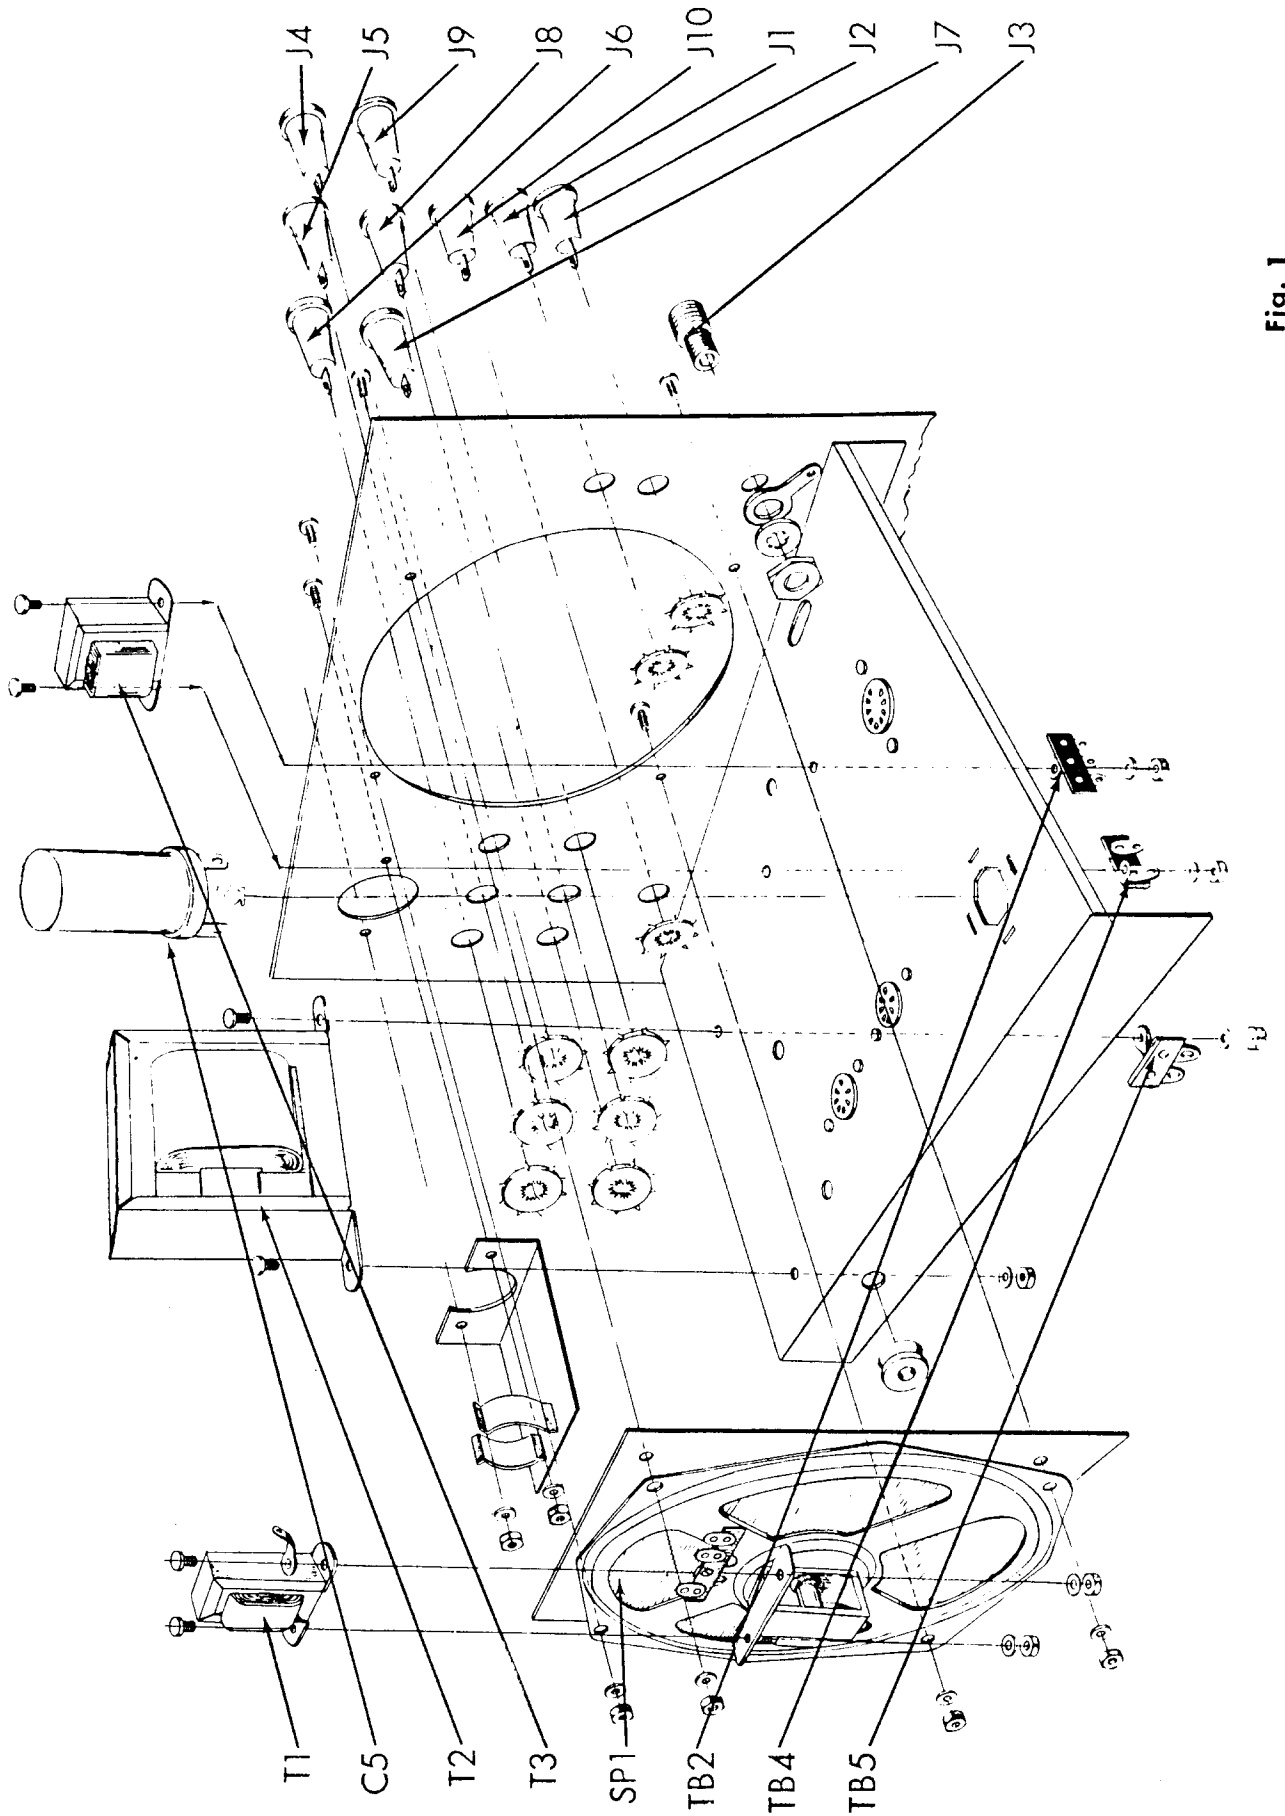
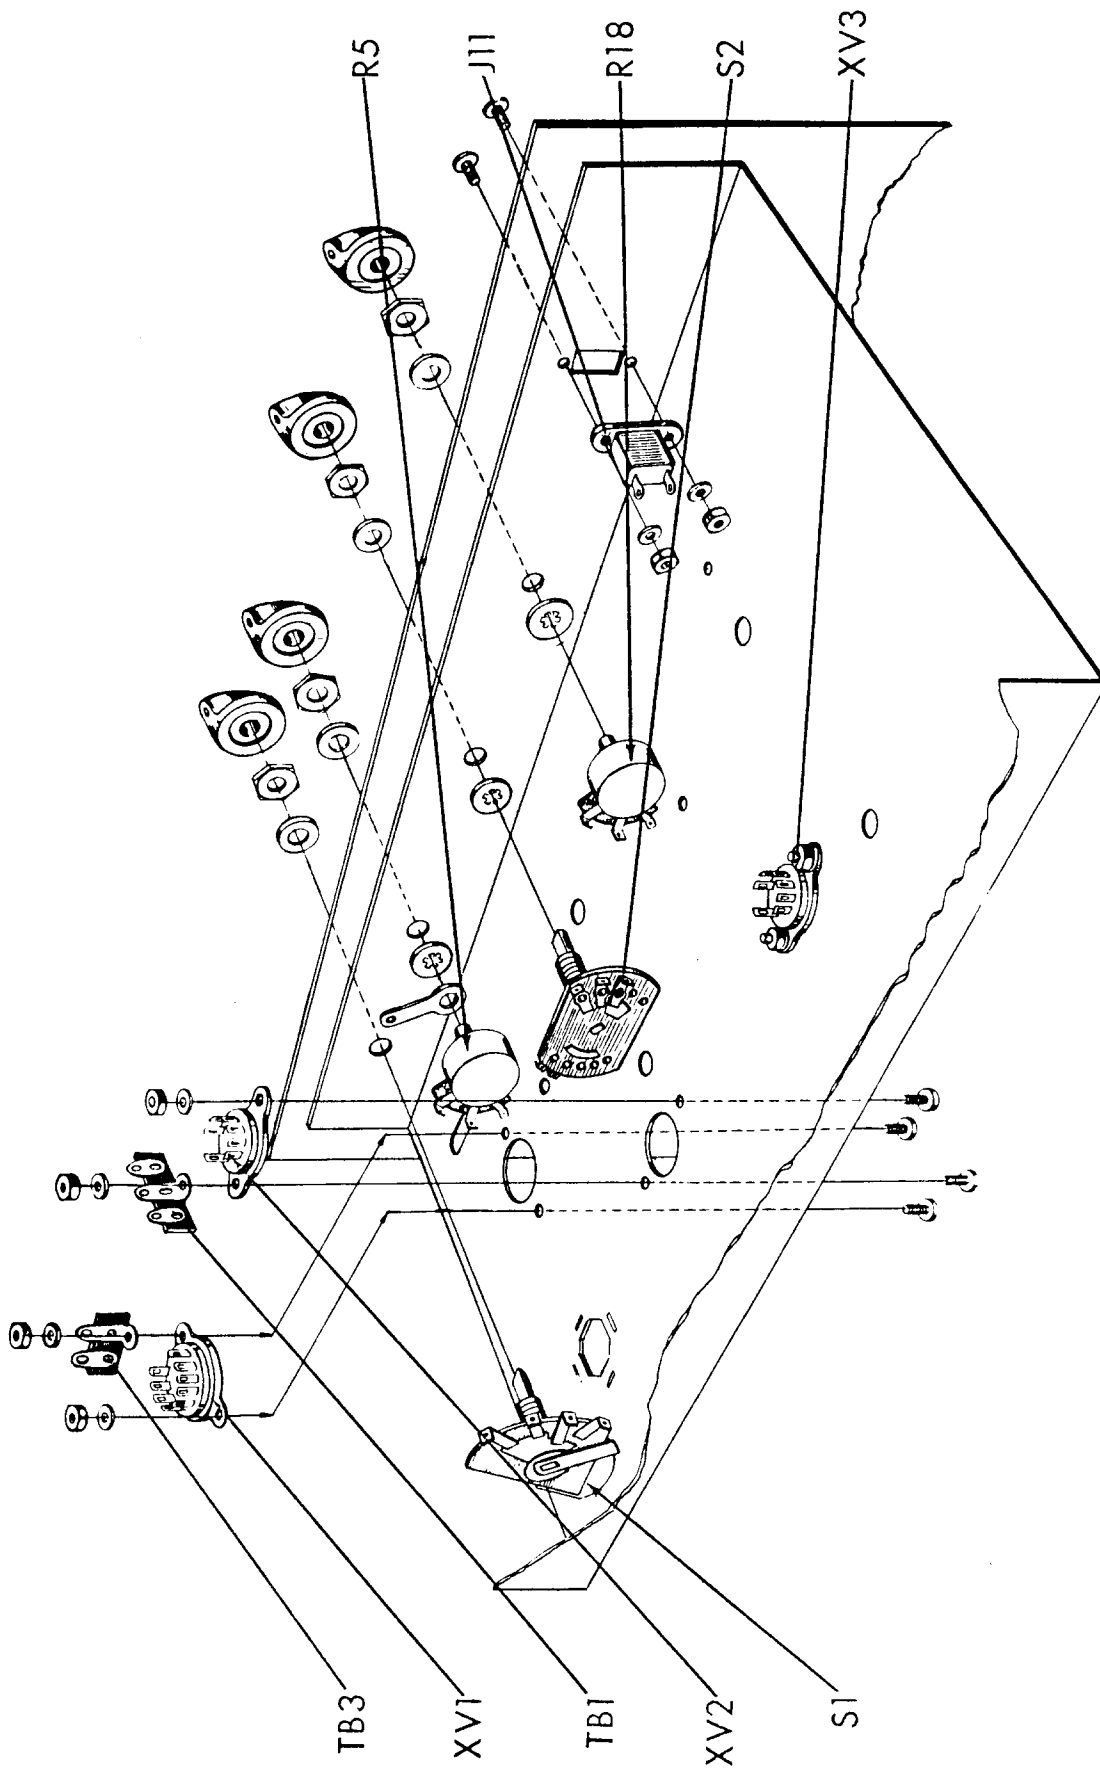
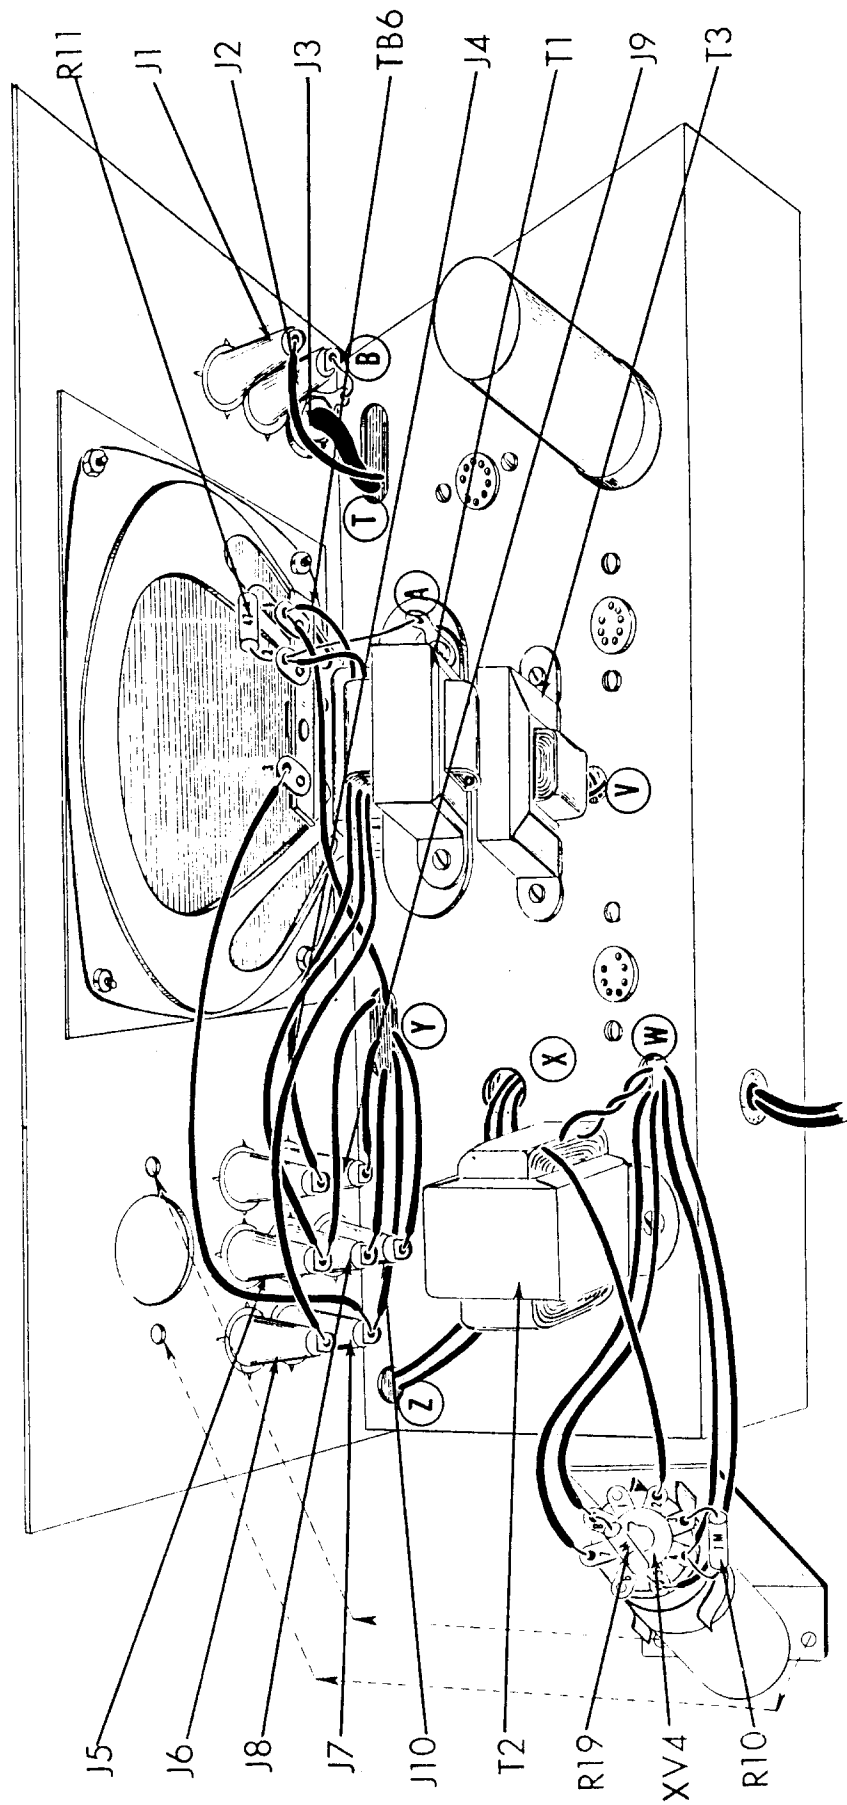
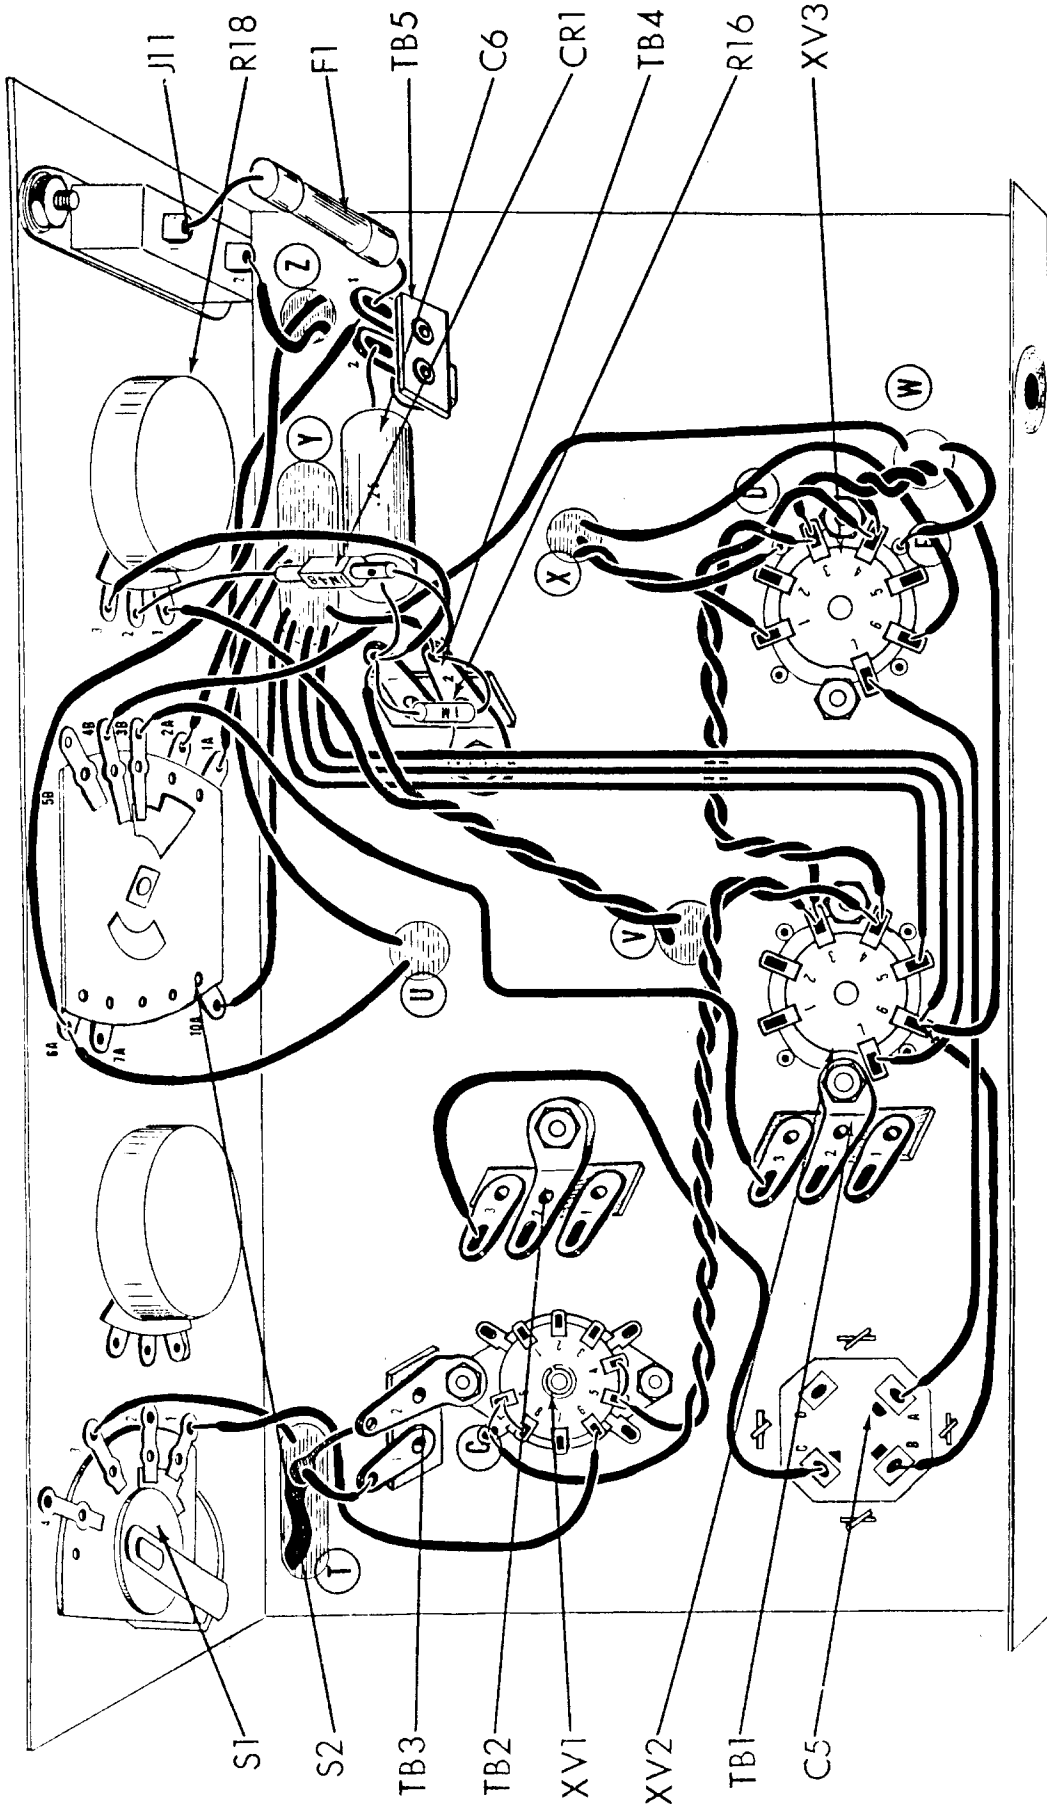

Fig. 1
Fig. 2
Fig. 3
Fig. 4
1. ( ) Fig. 1. From the front side of the panel, push a red pin jack, J1, through the top of the two holes marked AUDIO INPUT. From the rear side of the panel, force a star washer over the pin jack, with the rounded (convex) side facing away from the panel. Push the star washer over the pin jack until the pin jack is secured against the panel.
2. ( ) Fig. 1. Similar to the above, mount the black pin jack, J2, directly below the red one. In a similar manner, on the left hand side of the panel, mount OUTPUT TRANSFORMER red pin jacks, J4, J5, J6; mount TEST SPKR. GND, TEST AMP, VTVM SCOPE black pin jacks, J7, J8, J9, J10. Use one star washer over each to secure to panel.
3. ( ) Fig. 1. Mount RF input connector, J3, as shown. Use ground lug, 2 lockwashers and nut supplied with connector. Do not use fiber washers supplied with connector.
4. ( ) Fig. 1. Mount the bracket to hold the eye tube as shown. Use two 6-32 screws, two #6 lockwasher and two 6-32 hex nuts. For the convenience of drawing, this socket is shown pushed away from the panel in Fig. 3. As shown in Fig. 3, push the 1629 eye tube V4, gently but firmly, into the bracket with the front of the tube flush against the panel. Push an octal socket over the pins of the tube, noting the key in the center of both tube base and socket. The tube should be turned in its bracket until the key faces directly downward.
5. ( ) Fig. 1. Mount the speaker, SP1, on the front panel using four #6-32 screws, four #6 lockwashers and four #6-32 hex nuts. Between the speaker and the panel, place the speaker grill. The screws holding the speaker must first pass through the holes in the grill.
6. ( ) Fig. 1. Mount the output transformer, T1, to the bracket on top of the speaker. The leads on the transformer face the panel and speaker. Use two #6-32 screws, two #6 lockwashers and two #6-32 hex nuts. Under one of the screws, mount a #6 ground lug as shown.
7. ( ) Fig. 1. On the top of the chassis (not attached to the panel as yet) mount power transformer, T2, as shown. As shown in Fig. 3, the black leads face the side of the chassis and all the other leads face the center of the chassis. Use two #6-32 screws, two #6 lockwashers and two #6 hex nuts. Under one of the lockwashers, mount a 1 post left with ground terminal board, TB5 (under the chassis), as shown in Fig. 4.
8. ( ) Fig. 1. On the top of the chassis mount current transformer, T3, as shown. The red leads go through the hole at the center of the chassis. Use two #6-32 screws, two #6 lockwashers and two #6-32 hex nuts. Under one lockwasher mount a two post with ground terminal boards, TB2; under the other lockwasher mount a one post left with ground terminal board, TB4, as shown in Fig. 4.
9. ( ) Fig. 1. On the top of the chassis mount electrolytic capacitor can C5 as shown. Note the direction (half moon, square and triangle near the lugs) for mounting capacitor in Fig. 4. Insert the mounting tabs into the slots in the chassis and twist the tabs somewhat less than a quarter turn. DO NOT twist the tabs excessively or they will shear off. Solder the tab without a hole to the chassis at its slot.
10. ( ) Fig. 1. Push the 3/8 rubber grommet through hole on rear apron of the chassis.
1. ( ) Fig. 2. Mount 9 pin miniature tube socket XV1 as shown. Use two #4-40 screws, two #4 lockwashers and two #4-40 hex nuts. Note direction of mounting from figure 4. Under one of the lockwashers, mount a one post left with ground terminal board, TB3, as shown.
2. ( ) Fig. 2. Mount 7 pin miniature tube socket XV2, as shown. Use two #4-40 screws, two #4 lockwashers and two #4-40 hex nuts. Note direction of mounting from figure 4. Under one of the lockwashers mount a two post with ground terminal board, TB1, as shown.
3. ( ) Fig. 2. Mount 7 pin miniature tube socket XV3 as shown. Use two #4-40 screws, two #4 lockwashers and two #4-40 hex nuts. Note direction of mounting from figure 4.
The two pots, two switches and power outlet shown in figure 2 are used to hold the front panel to the chassis. The shafts will extend through the chassis and the corresponding holes in the front panel. In all the following operations the
4. ( ) Fig. 2. Mount the 500K $\Omega$  gain pot R5 as shown. Inside the chassis, use a pot grounding lug and a 3/8 lockwasher as shown. Outside the chassis (on the panel) use a 3/8 flatwasher and a 3/8 hex nut. The ground lug is eventually to be soldered to R5-1.
5. ( ) Fig. 2. Mount the 50K $\Omega$  wattmeter pot, R18, as shown. Similar to the above (but less a pot ground lug) use a 3/8 lockwasher, one 3/8 flatwasher and one 3/8 hex nut.
6. ( ) Fig. 2. Mount input selector switch S1, (60053) and output selector switch S2, (60054) as shown. Similar to the above, use one 3/8 lockwasher, one 3/8 flat washer and one 3/8 hex nut on each.
7. ( ) Fig. 2. Mount the power socket, J11, as shown. Use two #6-32 x 3/8 screws outside the chassis (on the panel) and two #6 lockwasher and two #6-32 hex nuts inside the chassis.
1. ( ) Fig. 3. On power transformer, T2, cut the upper black lead to 4" and the lower black lead to 7 1/2". Push both leads through hole "Z" in the chassis.
2. ( ) Fig. 3. On power transformer, T2, cut green, green-yellow and brown leads to 3". Connect the brown lead to XV4-2(S) and push the green and green-yellow leads through hole "W" in the chassis.
3. ( ) Fig. 3. On power transformer, T2, cut the two red and the red-yellow lead to 3 1/2". Push these leads through hole "X" in the chassis.
4. ( ) Fig. 3. On wattmeter transformer, T3, cut one red to 3" and the other red lead to 4 1/2". Push both leads through hole "Y" in the chassis.
5. ( ) Fig. 3. On wattmeter transformer, T3, cut one black lead to 3" and the other black lead to 6". Push both leads through hole "U" in the chassis (see fig. 2).
6. ( ) Fig. 3. On output transformer, T1, cut the red and brown leads to 4" and the blue lead to 4 1/2". Connect the brown lead to J4 (C), the red lead to J5 (C) and the blue lead to J6 (S).
7. ( ) Fig. 3. Connect a 2" piece of bare wire from ground lug "A" (S) to TB6-2 (C).
8. ( ) Fig. 3. Cut both enameled leads on output transformer, T1, to 1" and scrape the enamel off both leads for 1/4" from the end. Cover both leads with 3/4" pieces of spaghetti. Connect the lower lead to TB6-2 (C) and the upper lead to TB6-1 (C).
9. ( ) Fig. 3. Cut both leads on the 47Ω (yellow, violet, black, silver) resistor, R11, to 1/2". Connect from TB6-1 (C) to TB6-2 (S).
10. ( ) Fig. 3. Connect one end of an 8" piece of black wire to TB6-1 (S). Push the other end through hole "Y".
11. ( ) Fig. 3. Connect a 6" piece of green wire from TB6-3 (S) to J7 (C).
12. ( ) Fig. 3. Connect one end of a 6" piece of green wire to J7 (S). Push the other end through hole "Y".